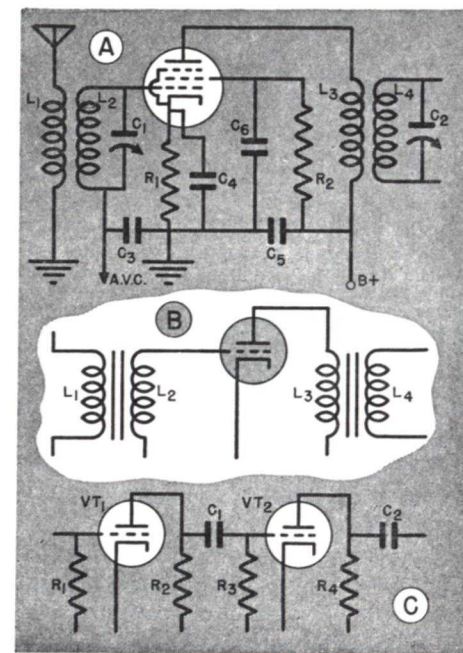

FIG. 21. Examples of stages where feedback can cause oscillation.
**Feedback Examples.** Fig. 21 shows several more examples of circuits in which feedback can occur. In 21A the plate load is inductive (unless the reflected effects from the tuned circuit  $L_4-C_2$  cancel all inductance in the plate circuit), so feedback from it will be in phase with the input signal and so may cause oscillation. In addition to the usual feedback paths, coupling may also exist between the tuned circuit  $L_4-C_2$  and the antenna lead—especially if an excess length of antenna wire has been tucked into the radio. Feedback along this path may cause oscillation if it has the proper phase and is sufficiently large.